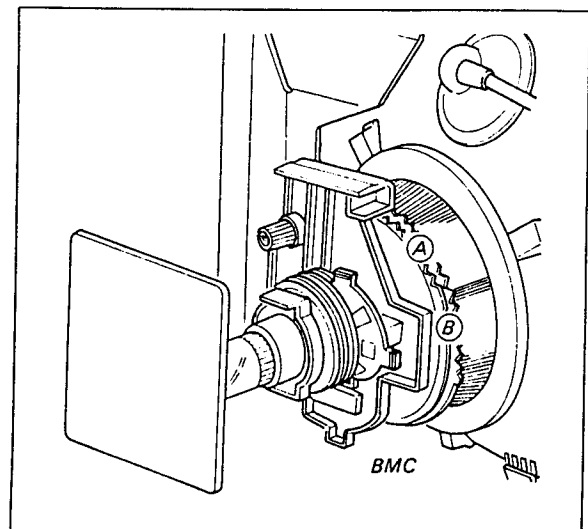

Fig. 3-8. BMC magnet adjustment
2. If only the blue dots do not converge and are shifted in one direction, move the BMC magnet horizontally as indicated by the arrow marked (B), in Fig. 3-8. Note that after moving the BMC magnet, beam landing adjustment should be performed
2. If only the blue dots do not converge and are shifted in one direction, move the BMC magnet as indicated by the arrow marked (A) in Fig. 3-8. Note that after moving the BMC magnet, beam landing adjustment should be performed.